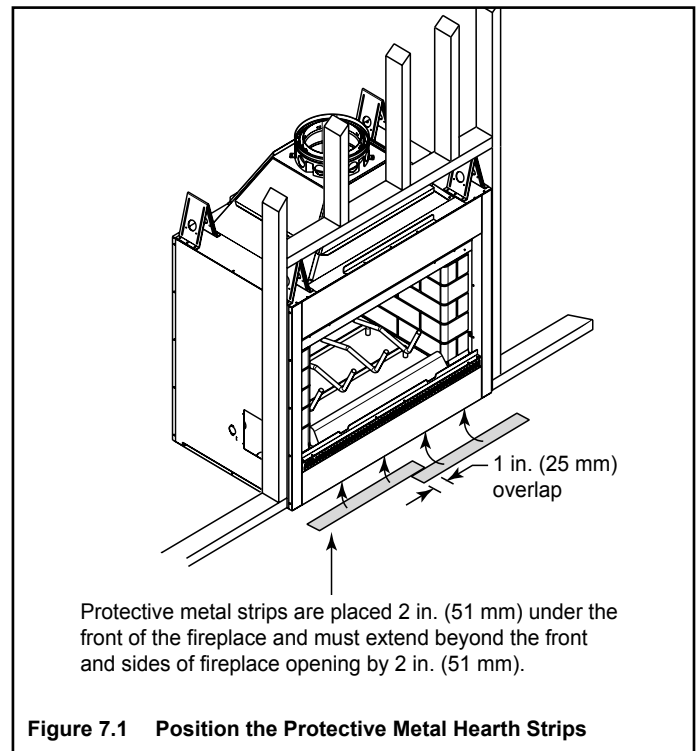

Figure 7.1 Position the Protective Metal Hearth Strips
- Refer to Figures 7.1 and 7.2.